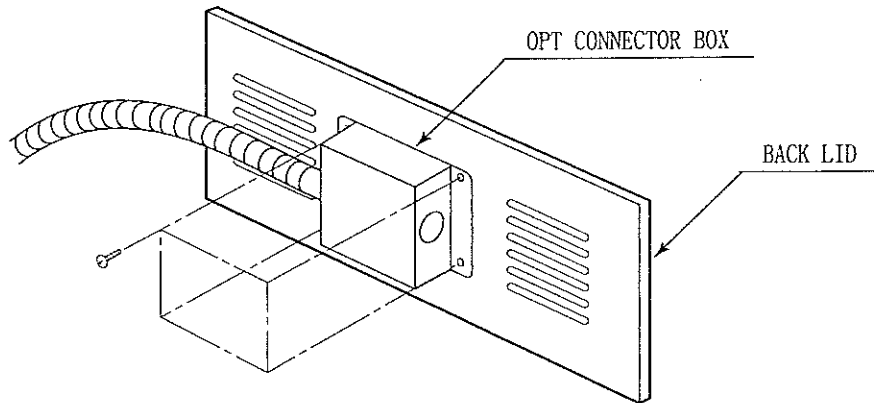

FIG. 21. 2 l
- ⑯ As per FIG. 21. 2 j, insert the Optic Fiber Cable's Connector (red) to the RX Optic Relay Connector, and Connector (black) to the TX Optic Relay Connector, and then secure the Back Lid with the 8 screws. At this time, use care so as not to forget connecting one of the Connectors.
- ⑰ Regarding the both end cabinets on which the PROTECT Tube is not to be attached, secure the Hole Lid with 2 screws to cover the hole.